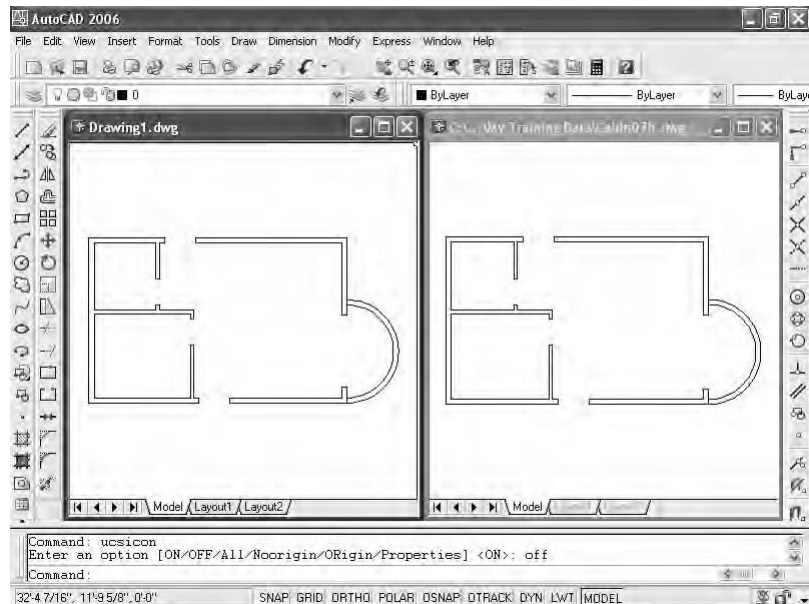

FIGURE 7.36: The result after dragging lines from one drawing to another
9. Zoom to Extents in Drawing1, use Realtime Zoom to zoom out a little, and then type `ucsicon` ↵ `off` ↵ (see Figure 7.36).